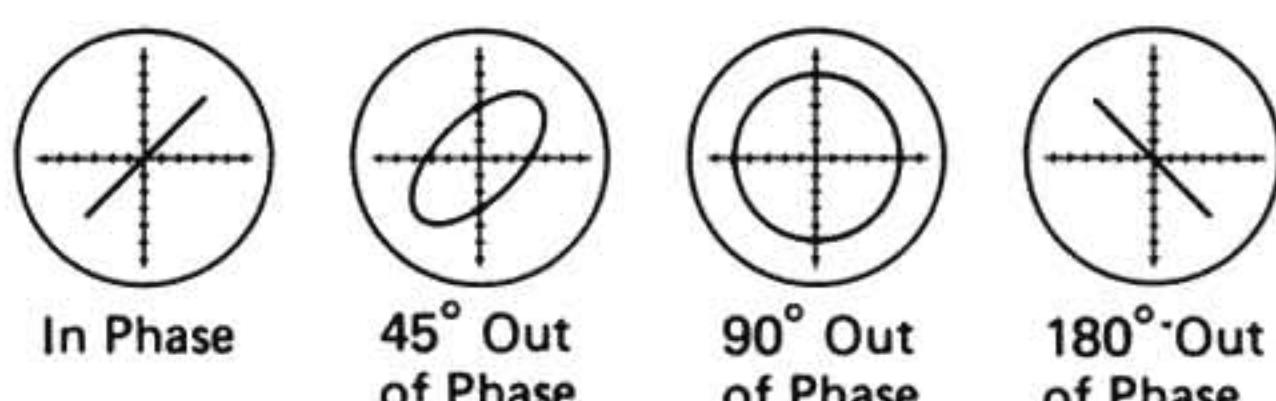

Figure 5-15. Phase Difference Between Both Channels
- Adjust the azimuth adjustment screws for a phase difference of 90 degrees or less between both channel outputs (refer to Figure 5-15) and, at the same time, for highest output level readings (from both channels).